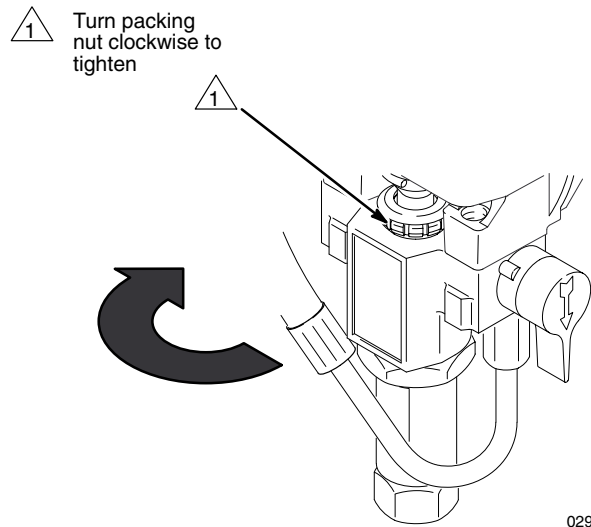

Fig. 9
3. **Tighten the packing nut/wet-cup just enough to stop leakage.** Over-tightening causes binding and excessive packing wear. Use a round punch or brass rod and a light hammer to adjust the nut. See Fig. 9.